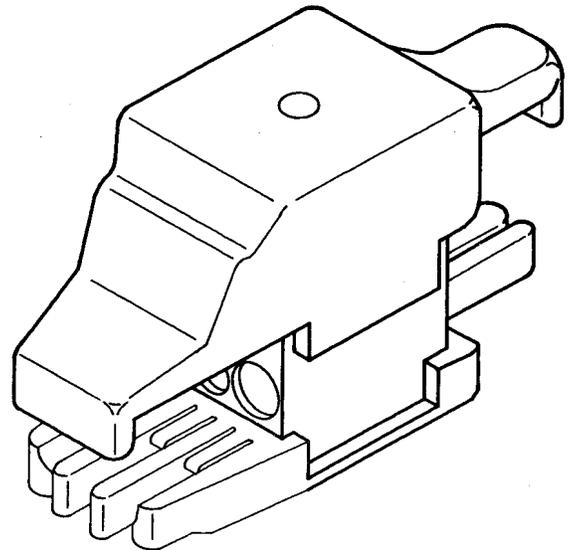

Fig. 1—700-3B, 3BR, 3BT, or 3BRT Connector
2.01 700-3B, 3BR, 3BT, and 3BRT: The 700-type connectors (Fig. 1) consist of a plastic body and cap, and a metallic insert for splicing three wires or bridging up to two wires to one through-wire. The body has three holes for insertion of conductors and a removable sidewall to open a through-slot for placing the through-wire when bridge-tap splicing. Flexible fingers position conductors and provide strain relief after the connector is pressed together. The cap houses the metallic insert and a sticky compound for sealing the connector after it is pressed. A test point for contacting the conductors without piercing the conductor insulation is also provided in the cap. These connectors are arranged to join any combination of aluminum, copper, or copper steel 17- through 26-American Wire Gauge (AWG) conductors. The connectors are provided in boxes of 300 for use with an E-connector presser, AT-8597.